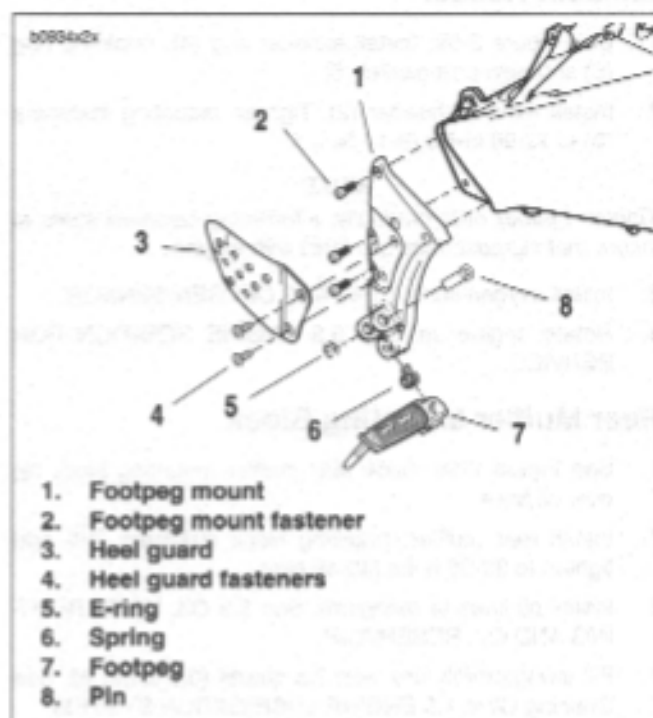

Figure 2-100. Rider Footpeg, Mount and Heel Guard Assembly
1. See Figure 2-100. Remove e-ring (5).
2. Remove footpeg pin (8).
3. Remove footpeg (7).
1. See Figure 2-100. Remove heel guard fasteners (4).
2. Remove heel guard (3).
1. See Figure 2-100. Remove footpeg mount fasteners (2).
2. Remove footpeg mount (1).
1. See Figure 2-100. Install e-ring (5).
2. Position footpeg (7) on to footpeg mount (1).
3. Install footpeg pin (8).
1. See Figure 2-100. Position heel guard (3) onto footpeg mount (1).
2. Install heel guard (3) with fasteners (4). Tighten to 72-96 in-lbs (8-11 Nm).
1. See Figure 2-100. Position footpeg mount (1).
2. Install footpeg mount with fasteners (2). Tighten to 108-132 in-lbs (12-15 Nm).